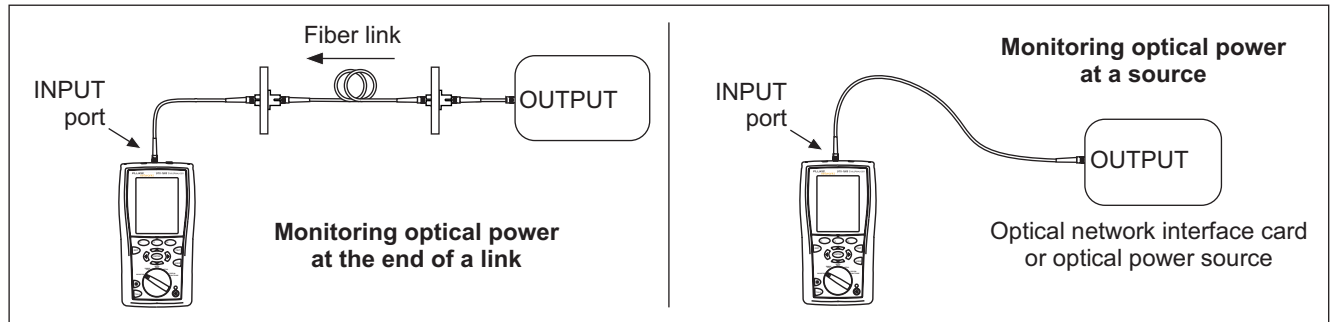

Figure 5-25. Connections for Monitoring Optical Power
- 3 Use the patch cord to connect the source to the tester's input port, as shown in Figure 5-25.